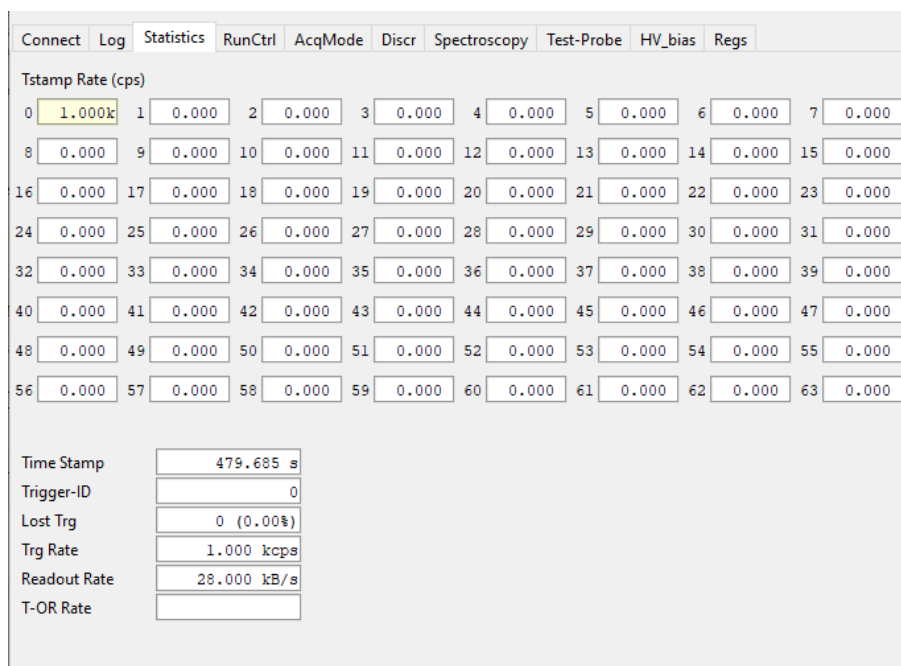

Fig. 10.30: The Stats tab of the Janus GUI with visualized the time stamp rate.
9. Select "Tstamp Rate" for the "StatsType" parameter in the Janus Command Bar. The time stamp rate of the channel TD self-triggers are visualized in the Stats tab (see Fig. 10.30). By selecting "Tstamp